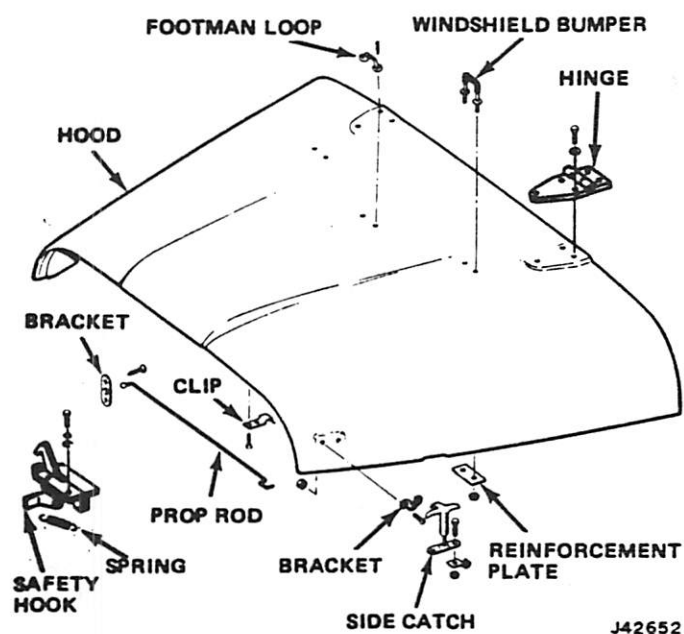

Fig. 3G-1 Hood and Related Parts—CJ and Scrambler Models
(1) Mark position of hinges on their respective mounting panels before removing hood.
(2) Detach hood panel from hinges by removing attaching screws, lock washers, and flat washers.
(3) Disassembly of CJ and Scrambler hood is accomplished by removing hood prop rod, hood prop rod retainer clip, hood side catch brackets, footman loop, and windshield bumpers (fig. 3G-1).
(2) Disconnect hood release cable from lock assembly and remove cable support bracket and lower cable.
(3) Remove tie straps from hood panel brace rod.
(4) Detach hood panel from hinges by removing attaching screws, lock washers, and flat washers.
(5) Disassembly of hood is accomplished by removing hood lever lock assembly, left and right hood panel brace rods, and insulation pad (Cherokee and Wagoneer) cemented to hood panel (fig. 3G-2).
(1) Remove screws attaching inside release cable bracket to cowl side trim panel using Torx Bit Tool J-25359-C.
(2) Raise hood.
(3) Disconnect hood release cable from lock assembly and remove cable support bracket (fig. 3G-2).
(4) Remove hood cable tie straps.
(5) Remove cable and rubber grommet from dash panel and remove cable.
The hood bumpers on the Cherokee, Wagoneer and Truck models are adjustable. Rubber caps must be removed to adjust the bumper screws (fig. 3G-2).